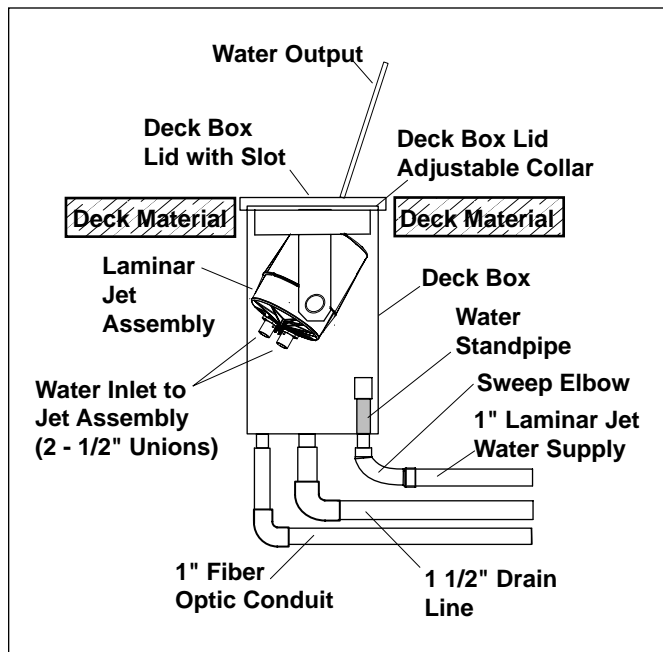
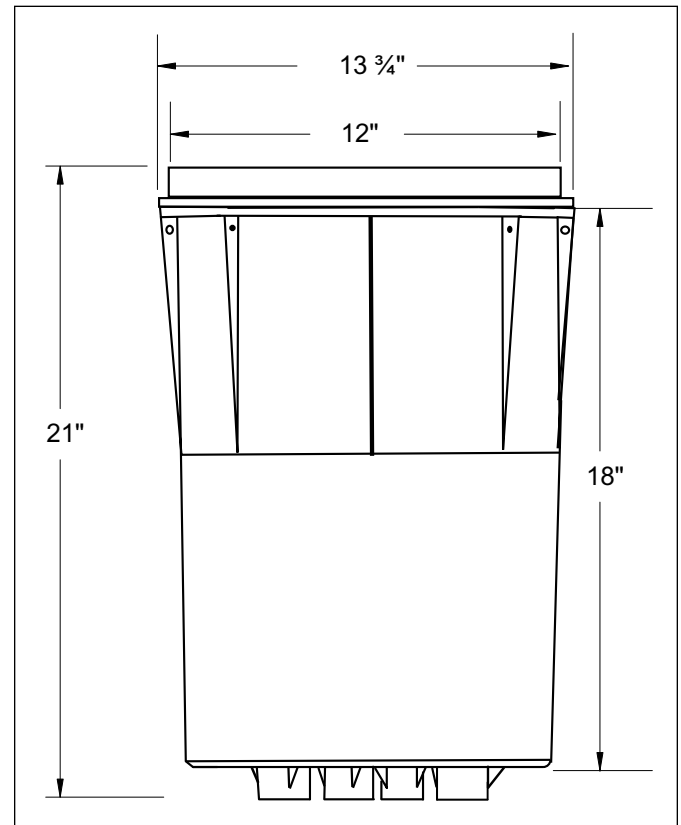

Figure 3. Laminar Jet Deck Box Schematic
Figure 4. Deck Box Dimensions
**NOTE** Prior to installing the Jandy Laminar Jet Deck Box, locate the jet opening (slot) in the Deck Box cover. Make sure that this opening is pointing towards the desired target location in the pool. Use the water stand pipe as a reference (see Figure 3). Determining the orientation of the Deck Box will also establish where to place the plumbing and fiber optic conduit.
2. Lift up the Deck Box lid and adjustable deck lid collar from the Deck Box (see Figure 4). Notice that the Laminar Jet assembly is connected to the Deck Box lid as one unit. Disconnect the two (2)  $\frac{1}{2}$ " unions located on the bottom of the Laminar Jet assembly (see Figure 3). Set the lid/jet assembly aside.